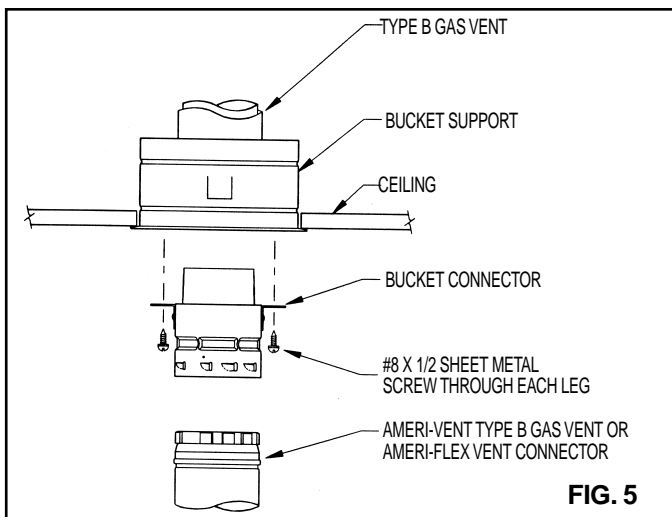

FIG. 5
1. The Bucket Connector is installed by positioning it against the bottom of the Ameri-Bucket, as shown in Fig. 5 with the mounting tabs against the bottom of the bucket.